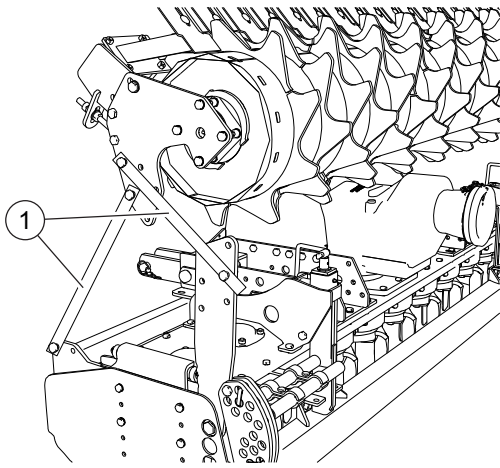
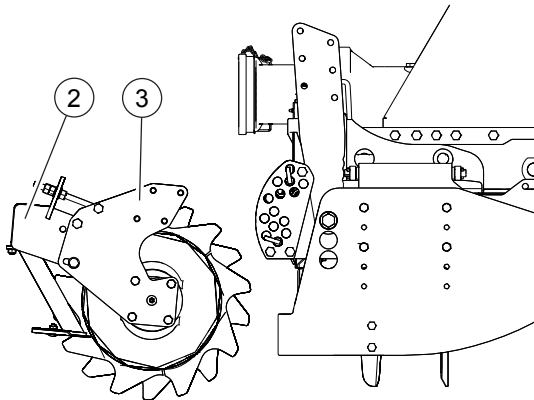

FIG. 8
FIG. 9
The machine may be delivered with the roller disassembled from the supports and hitched with iron clamps (1, "Fig. 8") on the machine.
- Loosen the screws fixing the clamps (1, "Fig. 8") to the roller.
- Impede the rotation of the scraper holder bar (1).
- Place the roller on the ground with the support plates (2, "Fig. 9") set in the assembly direction.